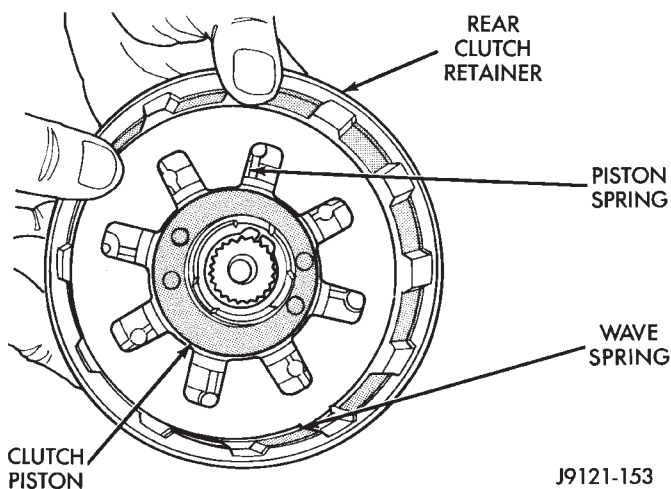

Fig. 159 Piston Spring/Wave Spring Position
(9) Install piston spring in retainer and on top of piston (Fig. 159). Concave side of spring faces downward (toward piston).
(10) Install wave spring in retainer (Fig. 159). Be sure spring is completely seated in retainer groove.